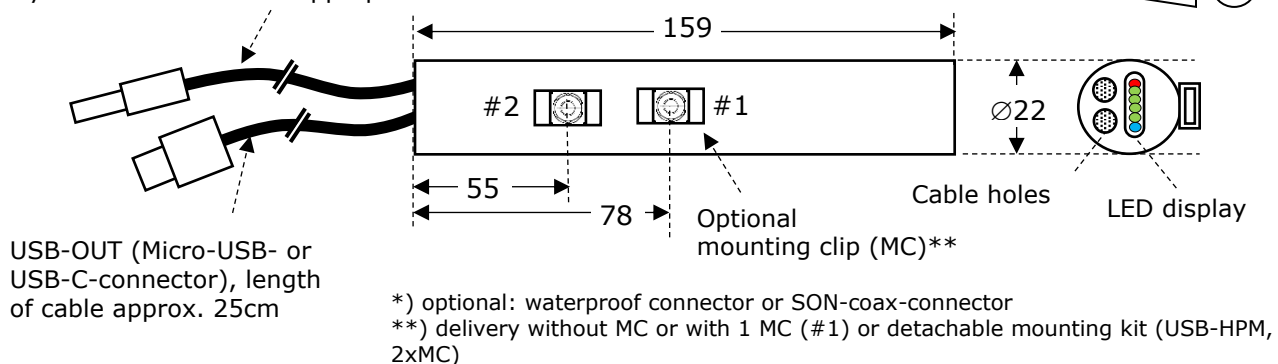

Bild 5: Dimensions and Interfaces (not to scale, mm)
- ⁴⁾ 1 clip, rotating (see. Fig. 5), please rotate only clockwise, do not remove the screw; 2 Clips only when detachable mounting set USB-HPM is ordered
Do not at all remove the mounting clips (Fig. 5).